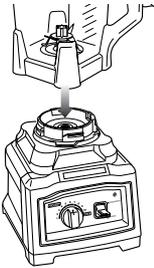

Fig. 1
- 2 Align and lower the pitcher onto the motor base. (Fig. 1) Handle should be aligned slightly to the right of the "LOCK" symbol on the motor base.